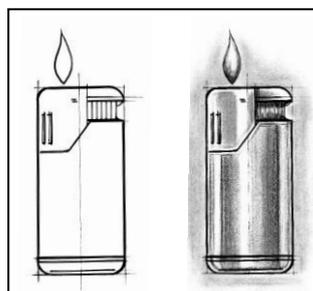

Figure 5b
- An example of a rendered two-dimensional sketch is given in Figure 5b.